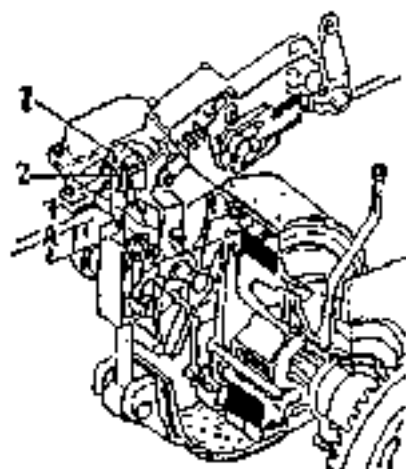

Fig. 5-31
2. Turn the adjusting bolt(2) which strains the brake band until a sudden resistance is felt and the brake lining will come into contact with the brake drum as shown in Fig. 5-31.